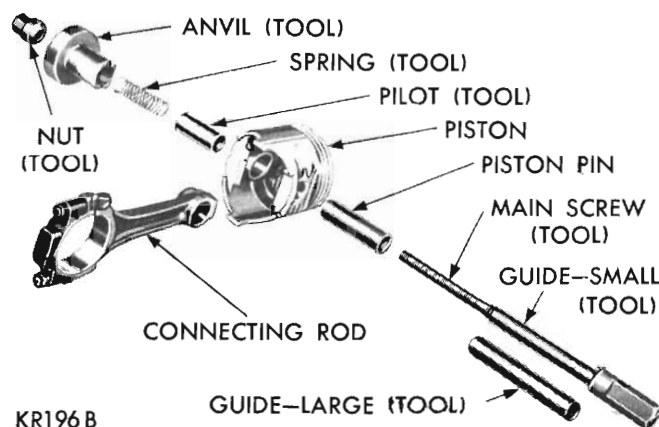

Fig. 32 - Tool arrangement for installing piston pin
(1) Test piston pin fit in the piston. It should be a sliding fit in the piston at 70 degrees F. Piston pins are supplied in standard sizes only.
(2) Lubricate piston pin holes in the piston and connecting rod.
(3) Arrange the tools E9C50C (318 c.i.) and E9C50F (360 c.i.) for installation of the piston pin as shown in (Fig. 32).
(4) Install spring inside the pilot and install spring and pilot in the anvil. Install piston pin over main screw.
(5) Place piston, with "Front" up, over the pilot so pilot extends through piston pin hole.
(6) Position connecting rod over the pilot which extends through piston pin hole.
(7) Install main screw and piston pin in piston, (Fig. 32).